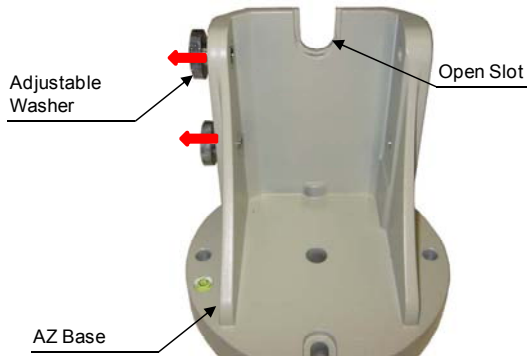

Figure 20
7. Retract two Adjustable Washers on the AZ base (**Figure 20**).